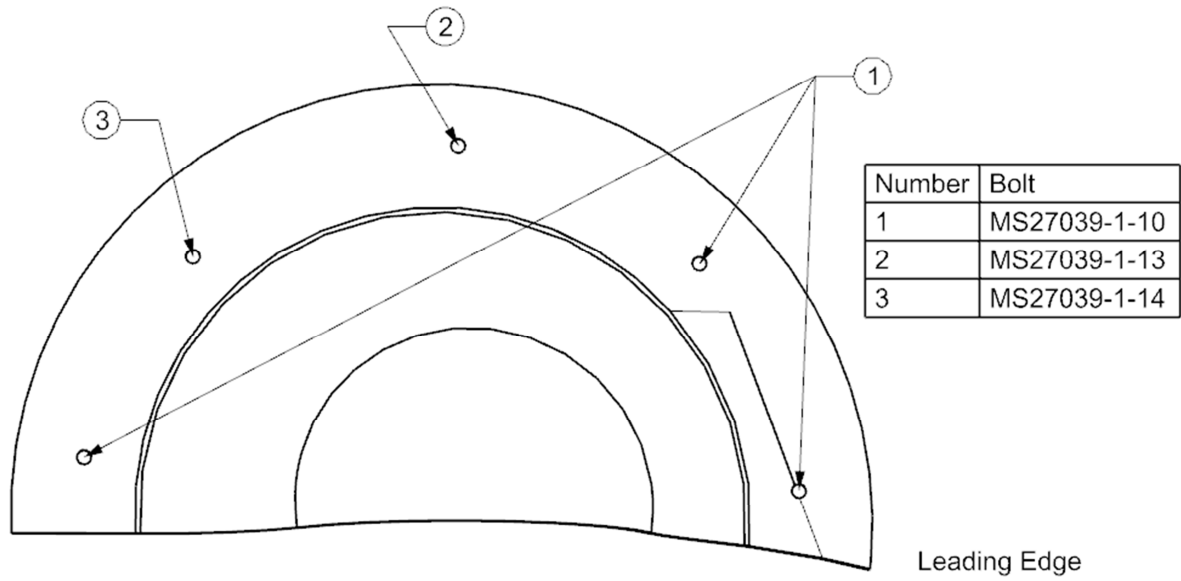
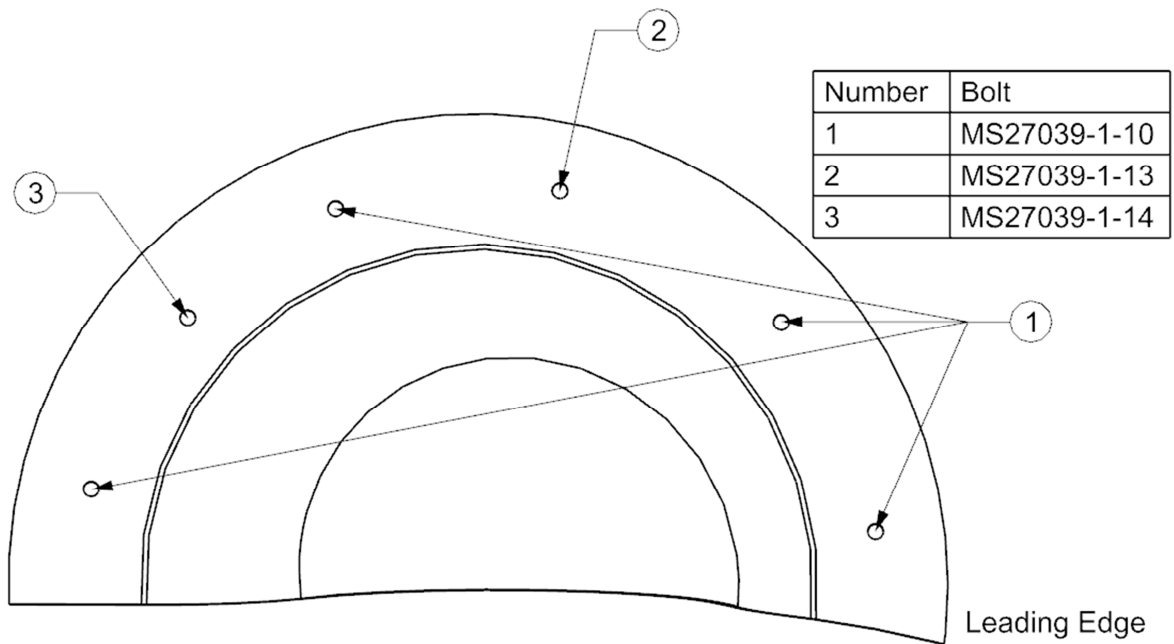
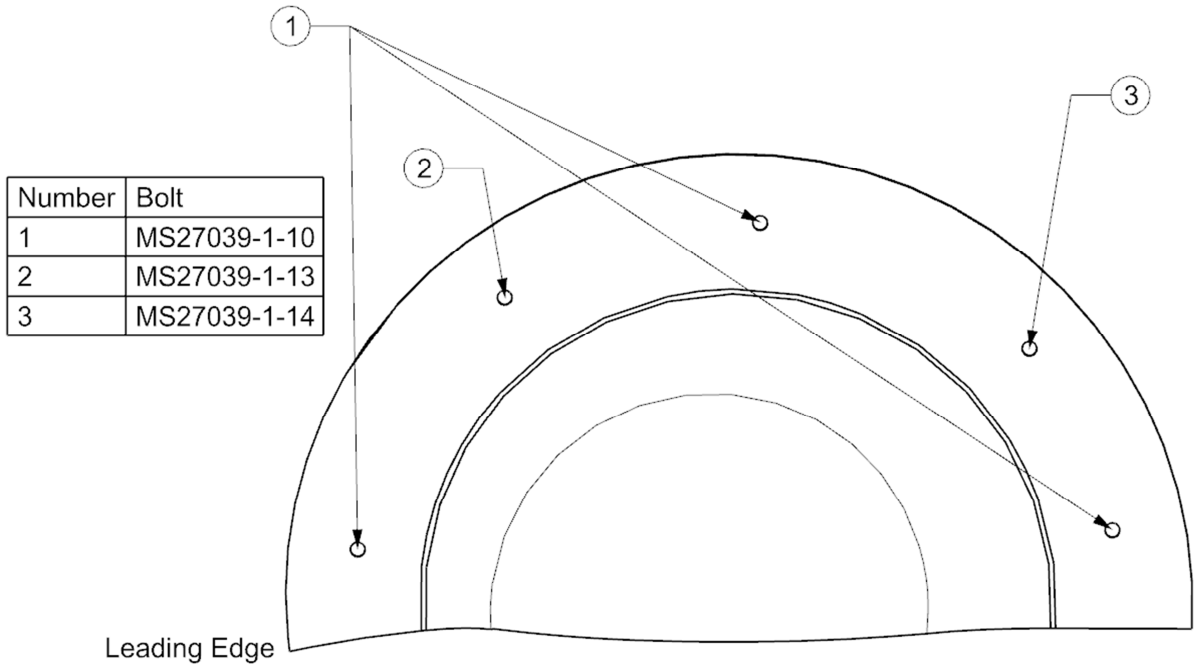

Figure 3-14: Outboard Wing Pylon Forward Lug Cover Fastener Placement
Figure 3-15: Center Wing Pylon Forward Lug Cover Fastener Placement
Figure 3-16: Inboard Wing Pylon Forward Lug Cover Fastener Placement
3. Attach forward wing pylon lug covers (UWB-ICE-06-104, UWB-ICE-07-104, UWB-ICE-08-104, UWB-ICE-06-105, UWB-ICE-07-105, and UWB-ICE-08-105) to the wing array pylons using MS27039-1-14, MS27039-1-13, and MS27039-1-10 fasteners as per Figure 3-14, Figure 3-15, and Figure 3-16.